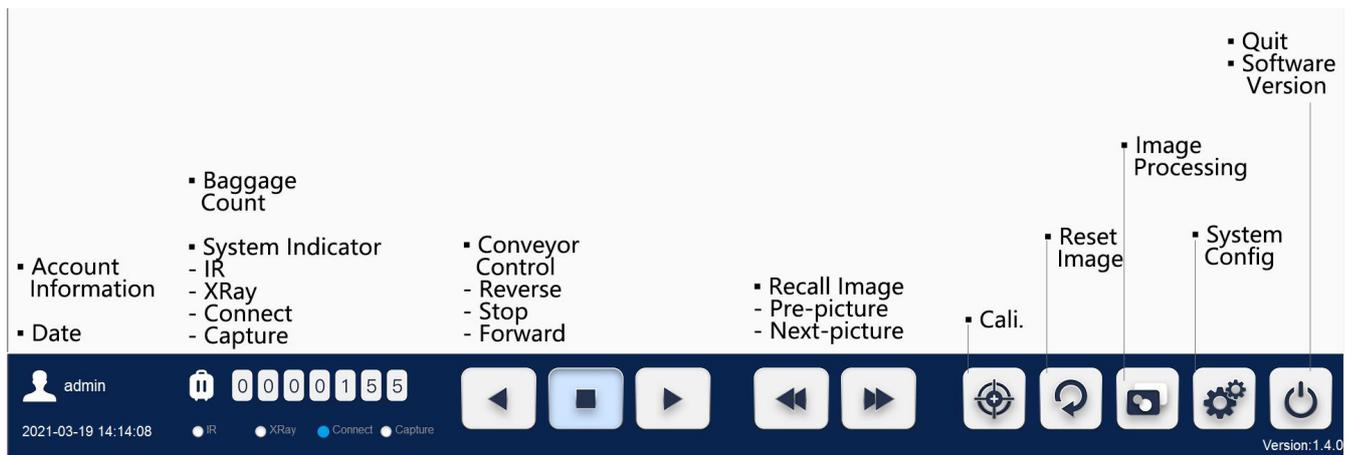

Figure 7 Scanning Screen
Before any operation, you need to click on the “**Calibration**” [P-17 Figure 7] firstly to calibrate the background color. Or you can press the “Calibrate” button on the standard keyboard [P-20 Figure 10]
- The 4 system indicators become Blue [P-17 Figure 7]